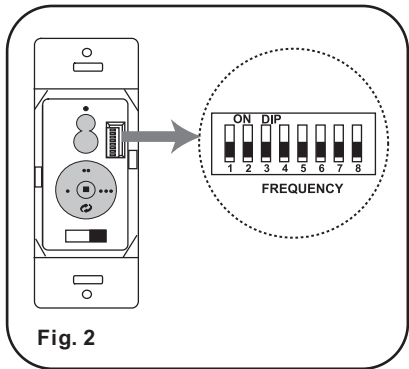

Fig. 2
**NOTE:** The Aire Control® System is equipped with a learning frequency function which has 256 code combinations to prevent potential interference from other remote units. The frequency on your Receiver and Transmitter units have been preset at the factory. (Fig.2) No frequency change is necessary, should you desire to install another fan within the same home or area with a separate frequency code please see the "frequency interference" troubleshooting section of this instruction manual to learn how to change the frequency.